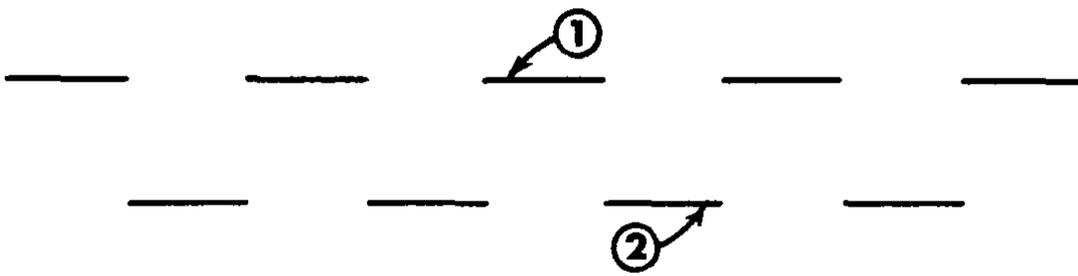

Fig. 2. POSITIONING CONTROL AT EXTREME COUNTER CLOCKWISE POS
f) Adjust the sweep vernier (fine frequency) control until a pattern of 6-9 cycles is locked in place on the 'scope screen, using as little sync voltage as possible. The pattern should appear as in Fig. 2.
4) The POSITIONING control permits adjustment of the separation between the "1" and "2" traces. With it you may superimpose one trace upon the other or reverse the vertical order of appearance of the traces on the 'scope screen. The extreme counter-clockwise position of this control provides maximum separation of the traces for one vertical order of appearance ("1" above "2") as shown in Fig. 2. The extreme clockwise rotation yields maximum separation for the reverse vertical order of appearance ("2" above "1") as shown in Fig. 3. At some setting of the POSITIONING control between the extremes of rotation, one trace will be superimposed upon the other as shown in Fig. 4. Turn the POSITIONING control slowly to the maximum clockwise position and back to the maximum counter-clockwise position observing the action described above.